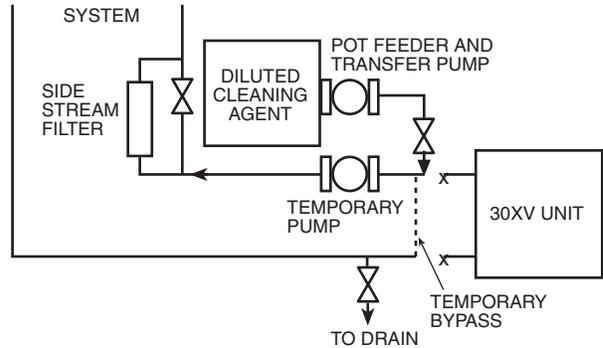

Fig. 35 — Cleaning Using a Side Stream Filter
- c. A side stream filter is recommended (see Fig. 35) during the cleaning process. Filter side flow rate should be enough to filter the entire water volume every 3 to 4 hours. Change filters as often as necessary during the cleaning process.